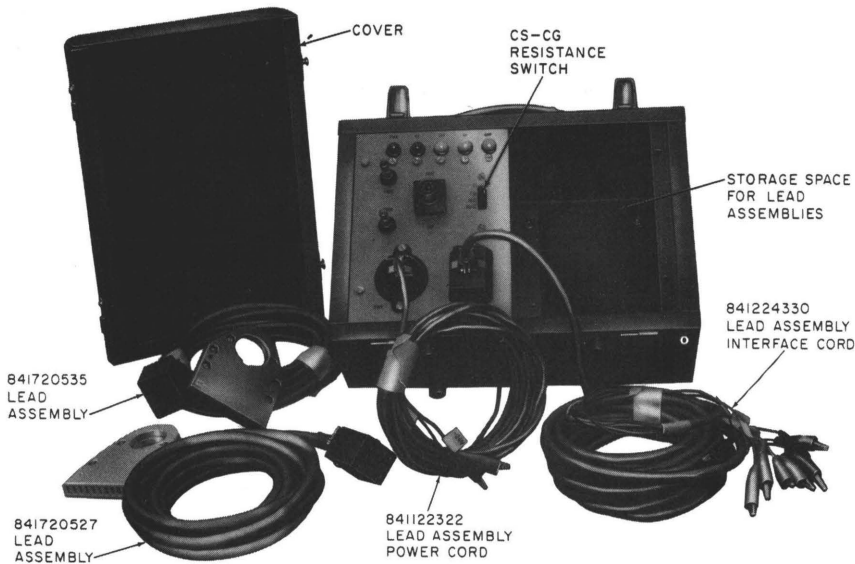

Fig. 1—142A Test Set Shown With Optional Lead Assemblies
- Revise Fig. 1 to show new slide switch for CS-CG resistance switch
**2.01** The 142A test set (Fig. 1) is designed to permit field testing of various multilead interconnecting units (IUs) by simulating the inputs